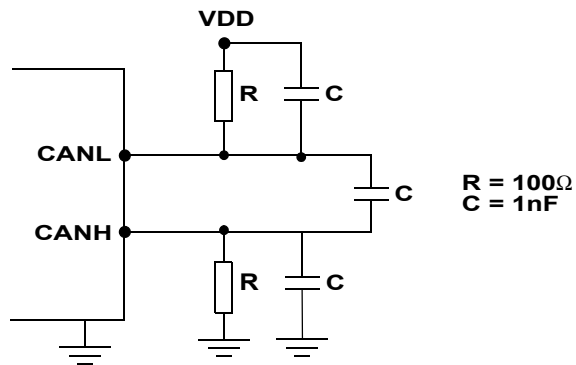

Figure 5. Test circuit for AC characteristics
- 25. AC Characteristics measured according to schematic Figure 5
26. AC characteristic according to ISO11898-3, tested per figure 5 and 6. Guaranteed by design, room temperature only.